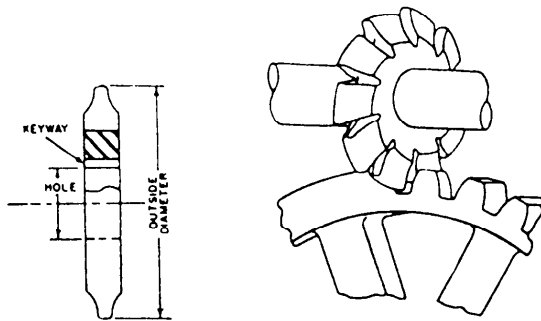

Figure 7-39.—Involute gear cutter.
**GEAR CUTTERS.**—There are several types of gear cutters, such as bevel, spur, involute, and so on. Figure 7-39 shows an involute gear cutter. You must select the correct cutter for a particular type of gear.